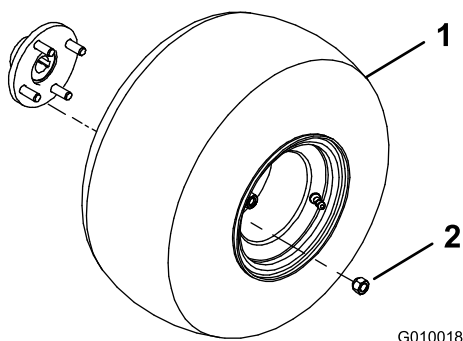

Figure 3
2. Mount a wheel assembly onto each rear wheel hub (Figure 3).
3. Install the lug nuts (Figure 3) and tighten them to 45 to 55 ft-lb (61 to 75 N-m).